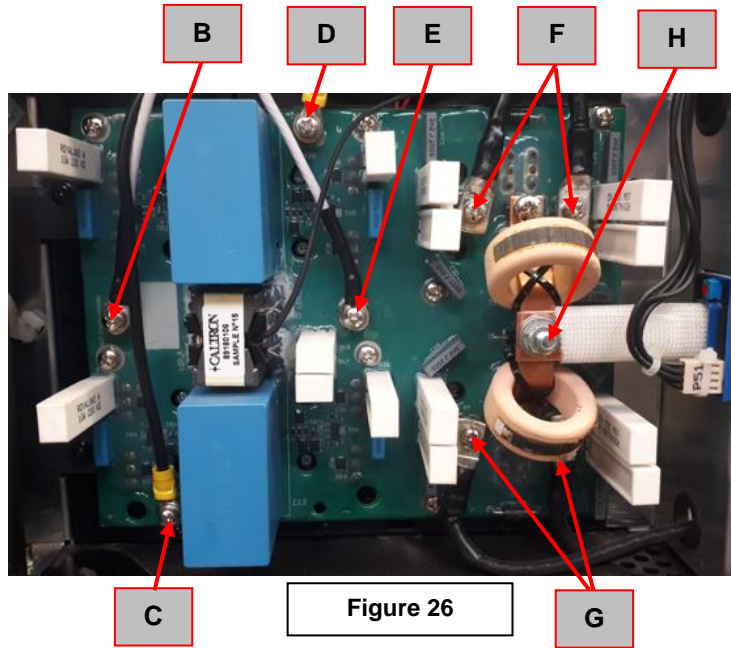

Figure 26
6. Using the PH02 screwdriver remove the cables B, C, D, E, F, G. See **Figure 26**
7. Using the Socket wrench 10mm remove the bold (H). Pull a bit the copper bar to be free from the screw. See **Figure 26**.